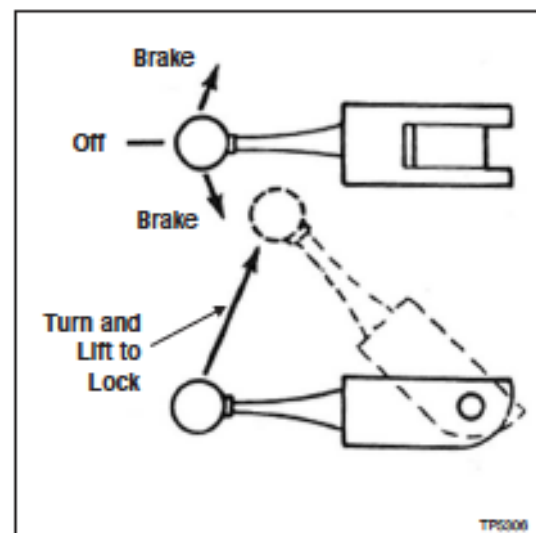

Figure 2.21 - Spindle Brake
1. CAM upwards to lock and prevent movement of spindle (see Figure 2.21).